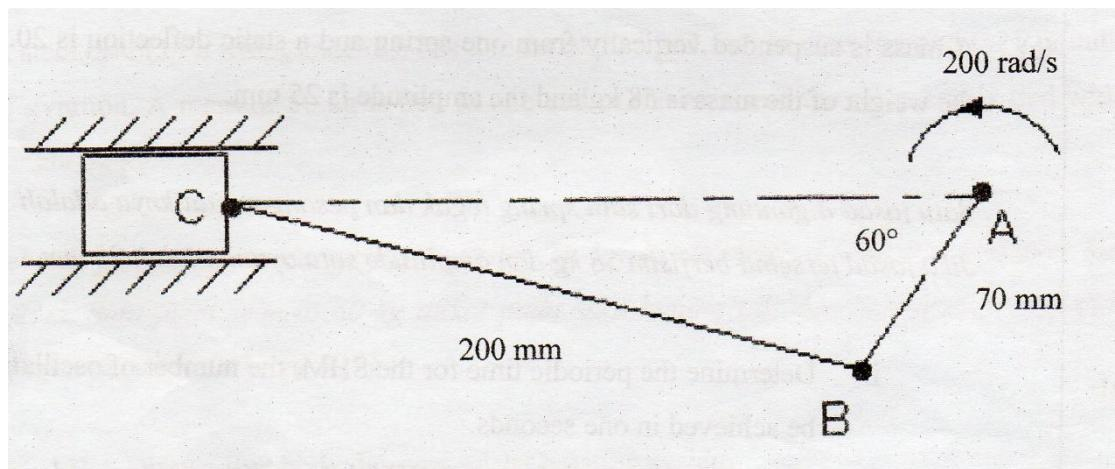

Figure 2(c) / Rajah 2(c)
- CLO1 (c) A piston, connecting rod and crank mechanism is shown in **Figure 2(c)**. The crank AB with a radius of 70 mm rotates counter-clockwise at a constant velocity of 200 rad/s.